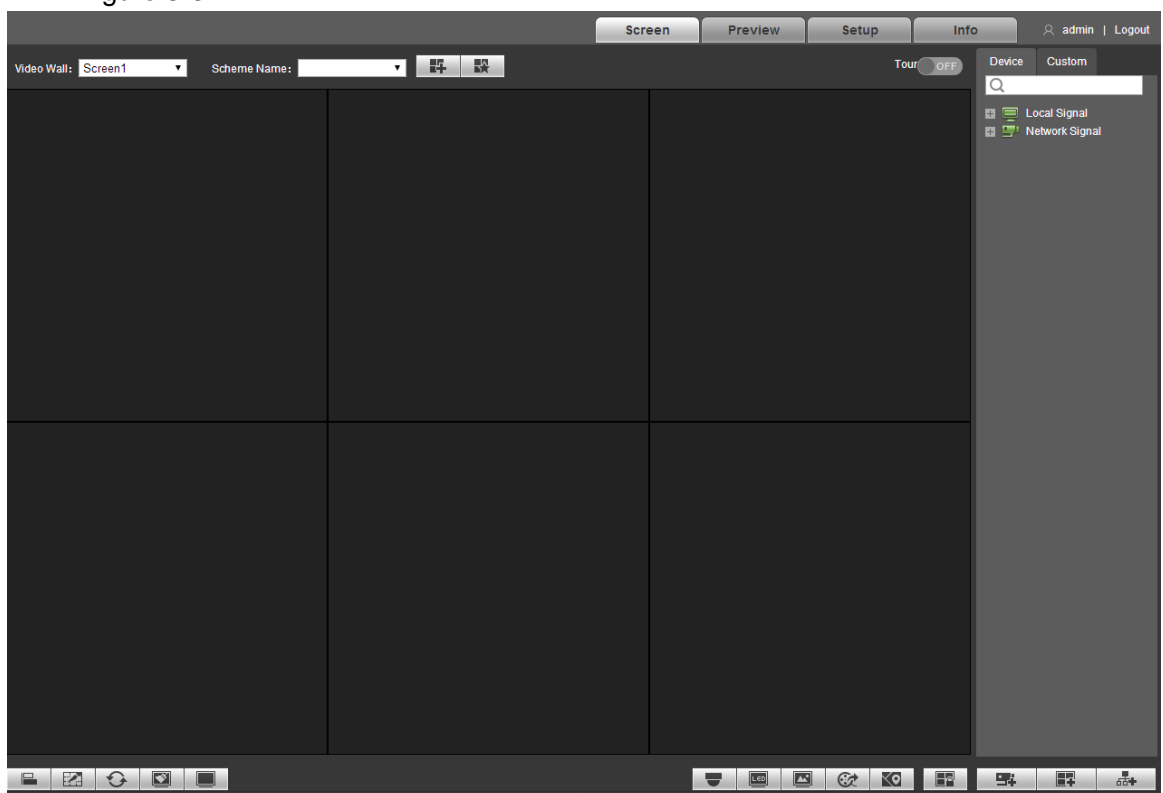

Figure 3-3
Step 4 Input username and password, and click "Login" to login the system. The system displays Figure 3-3.